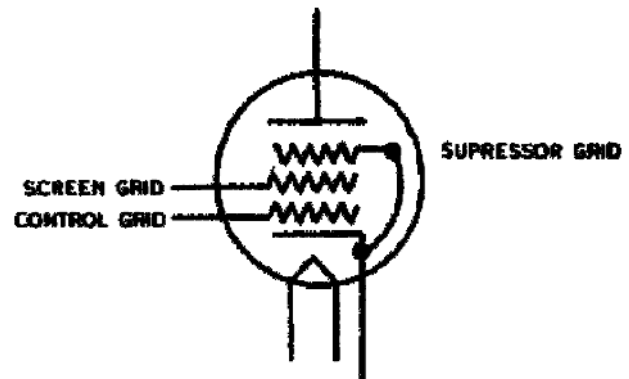

Figure 100. Pentode amplifier tube.
23. **Pentode Amplifiers.** The tetrode tube is a better amplifier than the triode tube, but it also has a fault. A cold plate does not normally emit electrons. However, high-velocity electrons, produced by the positive potential on the screen grid, cause other electrons to be knocked from the plate. The liberation of these electrons is called secondary emission. The secondary electrons will be attracted to the positive screen grid and will reduce the plate current. To overcome this, a vacuum tube was designed that contains still another grid. This grid, shown in figure 100, is called a suppressor grid and is placed between the plate and the screen grid. A negative potential is applied to the suppressor grid, and the negative potential forces the secondary electrons back to the plate and prevents secondary electrons from reaching the screen grid. These five-element tubes, or pentodes, are the highest development of amplifier tubes.